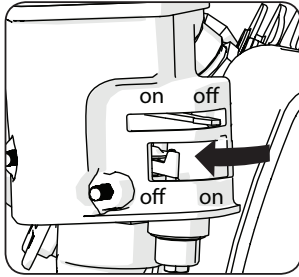

Fig 16
- Allow the engine to come to a complete stop and turn the fuel tap to the 'OFF' position. **(Fig. 16)**